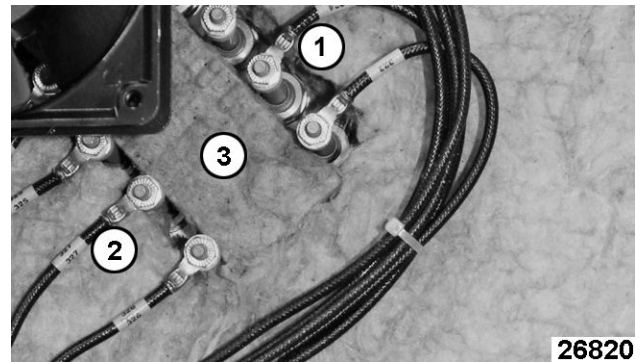

Fig. 96
- Outer Elements (1, Fig. 96).
- Inner Elements (2, Fig. 96).